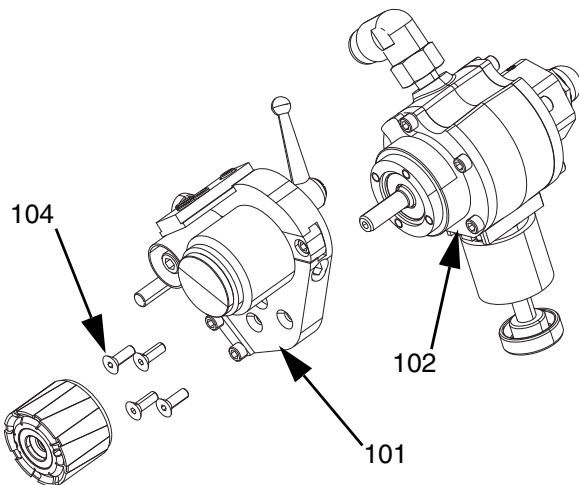

FIG. 10
Refer to **Figure 10** for the following steps.
2. Disconnect the air tube (160) from the cutter assembly.
3. Loosen the set screws (106) and pull gently to remove the cutter head assembly.
4. Remove the four screws (104) that secure the air motor (102) to the plate (101). See **Figure 10**.
5. Separate the air motor (102) from the plate (101).